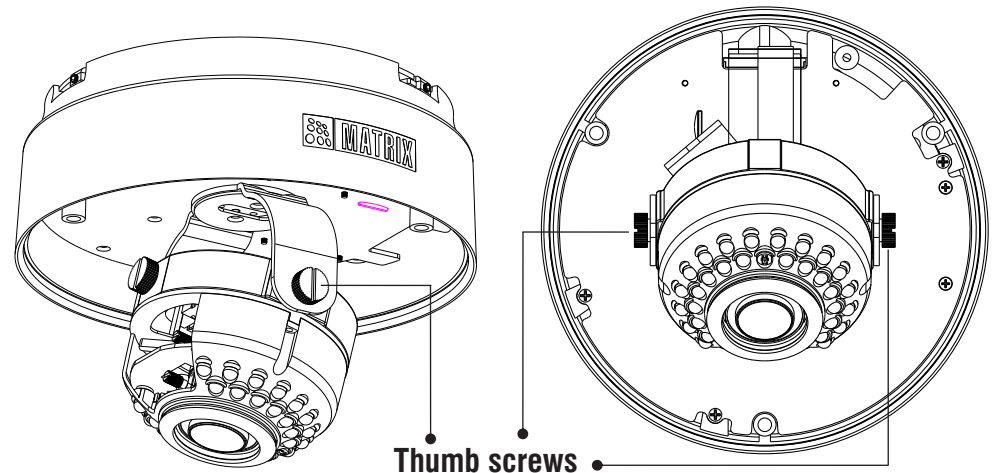

Figure11
- Loosen thumb screws on both sides of lens for PAN movement. see **Figure:11**